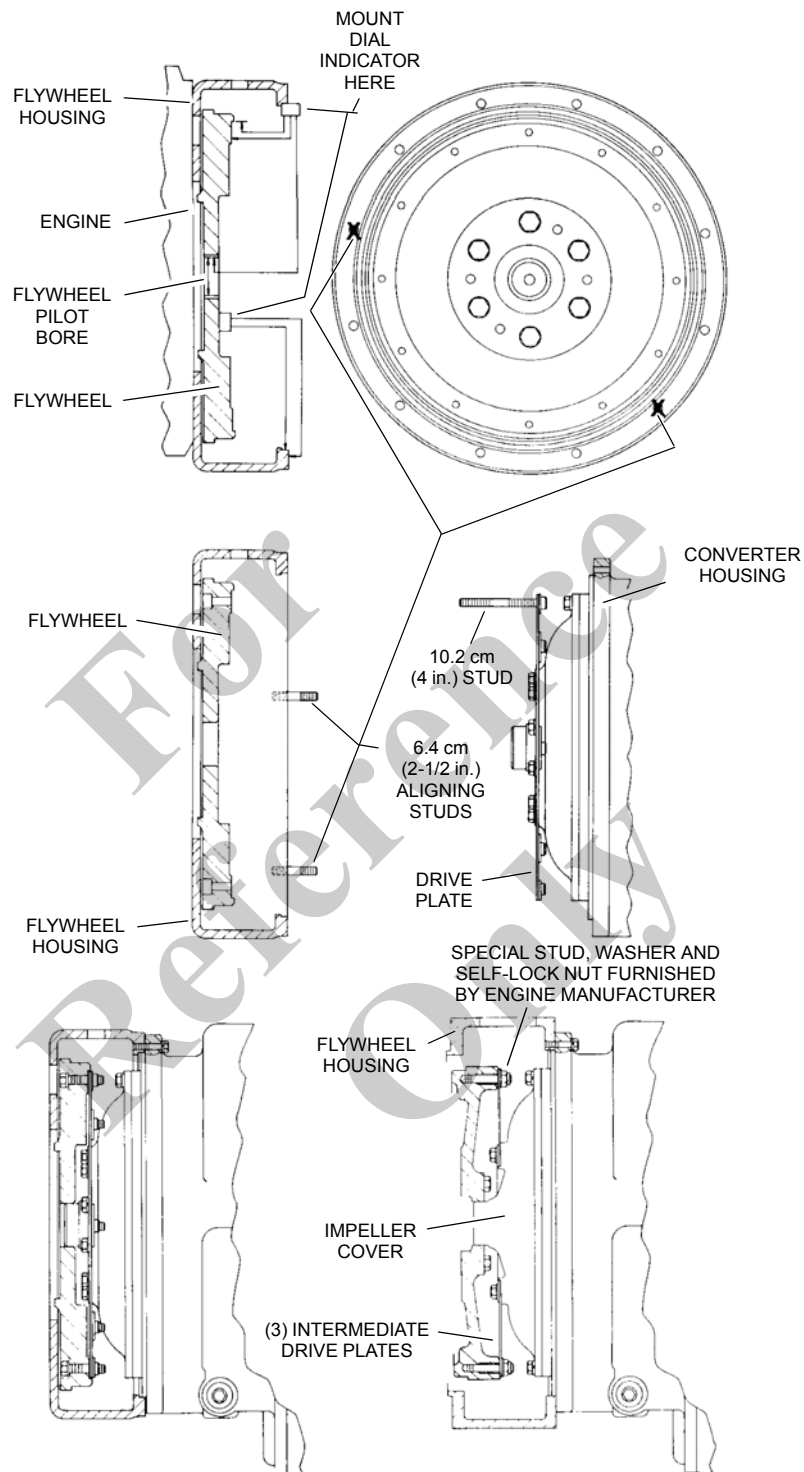

FIGURE 7-11
4. Remove all burrs from the flywheel mounting face and nose pilot bore. Clean the drive plate surface with solvent (Figure 7-11).